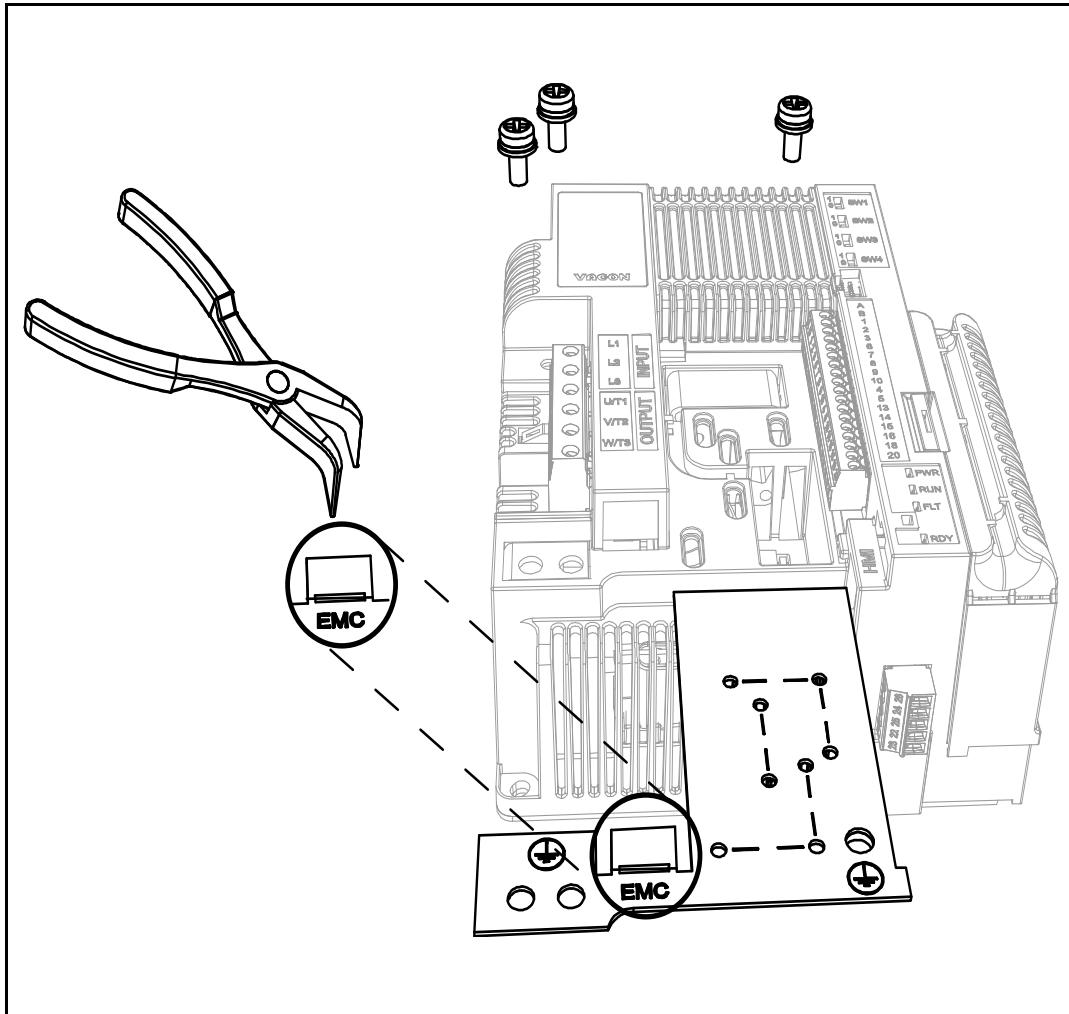

Figure 30. Changing of the EMC class in MU2 control unit.
**2** Remove the EMC plate from the control unit. Then turn up the thin plate with pliers to disconnect the EMC plate from the ground. See Figure 30.